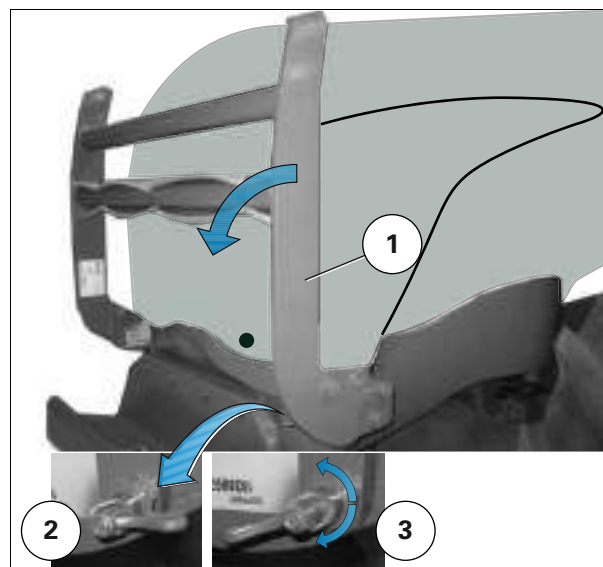

Fig. 2.
To fold back the ROPS, release the lock (2) to position (3) *fig. 2* and pull on the ROPS.